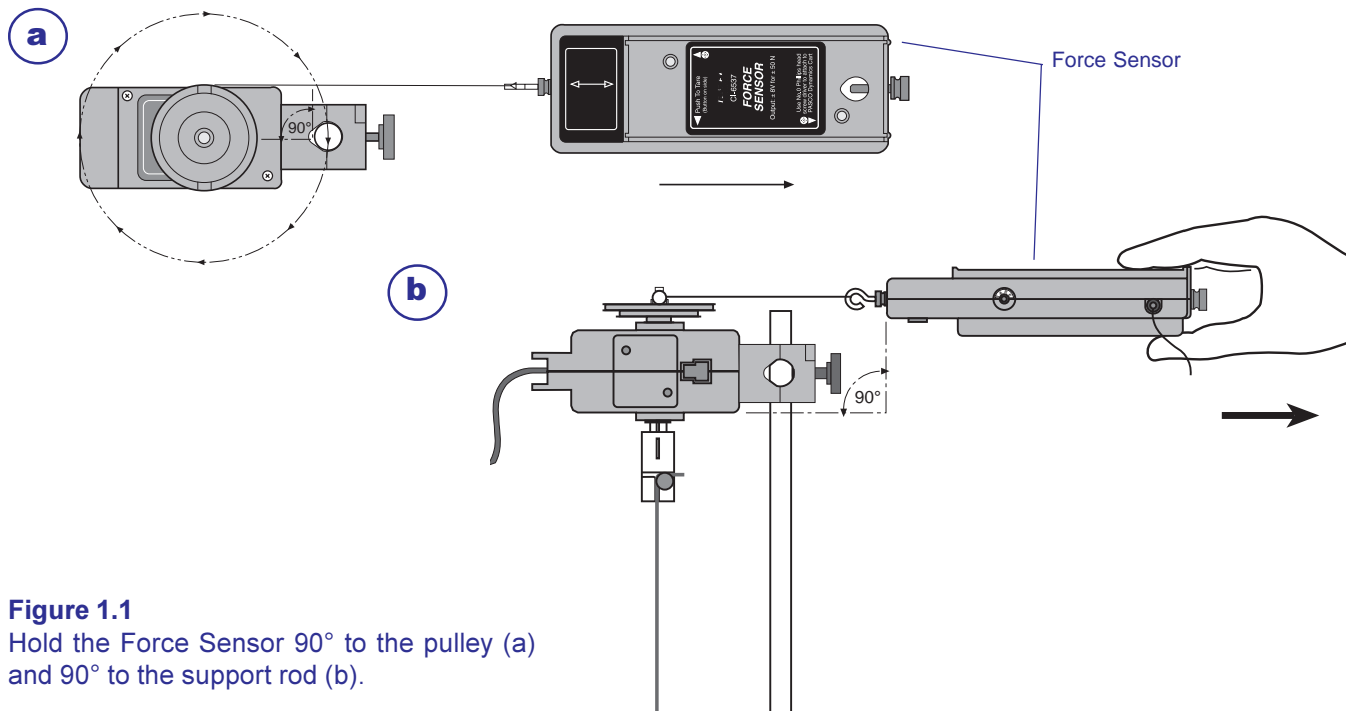

Figure 1.1
3. Hold the Force Sensor parallel to the table at the height of large pulley and prepare to pull it straight out (Figure 1.1).